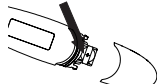

Figure 4
3. Gently pull out plastic circuit board with battery chamber approximately 1 cm (slightly less than 1/2) (See Figure 4)